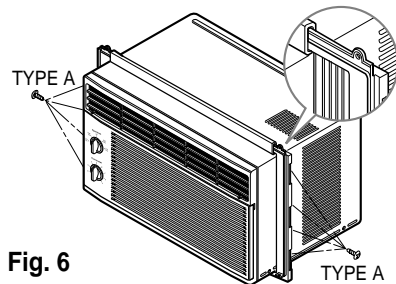

Fig. 6
1. Insert the guide panels into the guides of the air conditioner. Fasten the curtains to the unit with screws (TYPE A), as shown Fig. 6.